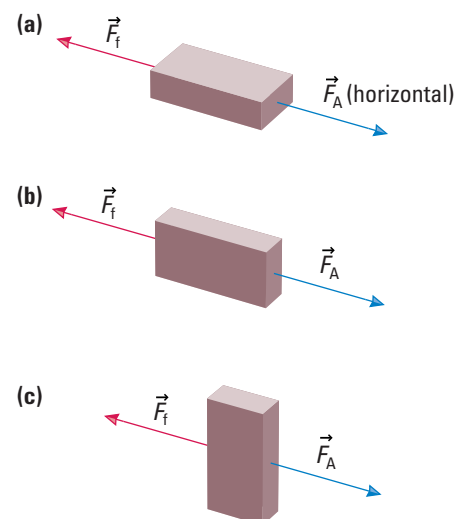

Figure 6
- How does the contact area affect sliding friction (Figure 6)?